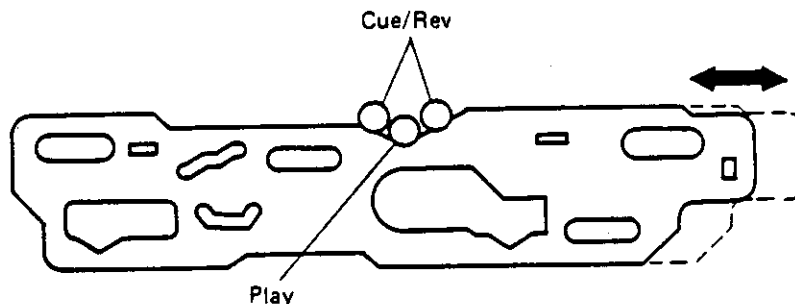

FIGURE 4-6. FF/REW OPERATIONS AT MUSIC SENSOR ON
7. FF/REW Operations at Music Sensor On - When MS (Music Sensor) function is actuated in FF/REW mode to detect a signal blank between tunes, the playback head is moved forward to contact running tape or CUE/REV mode is set (see Figure 4-6).